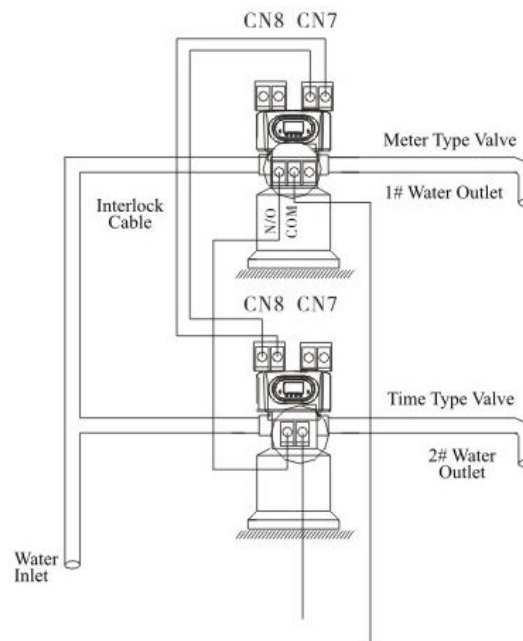

Figure 3-12 Remote Handling Sequentially Set.
* **Function:** Allows for continuous service and simultaneous non overlapping regeneration. This application is for 2 or more RevV4's in a system, all in service, with one flow meter for the entire system. Adjust the Time Clock valve to the maximum days. This avoids a regeneration prior to the metered valve reaching capacity. Connect the signal output connector of the metered valve to the remote handling connector of the Time Clock valve. Refer to Figure 3-12.